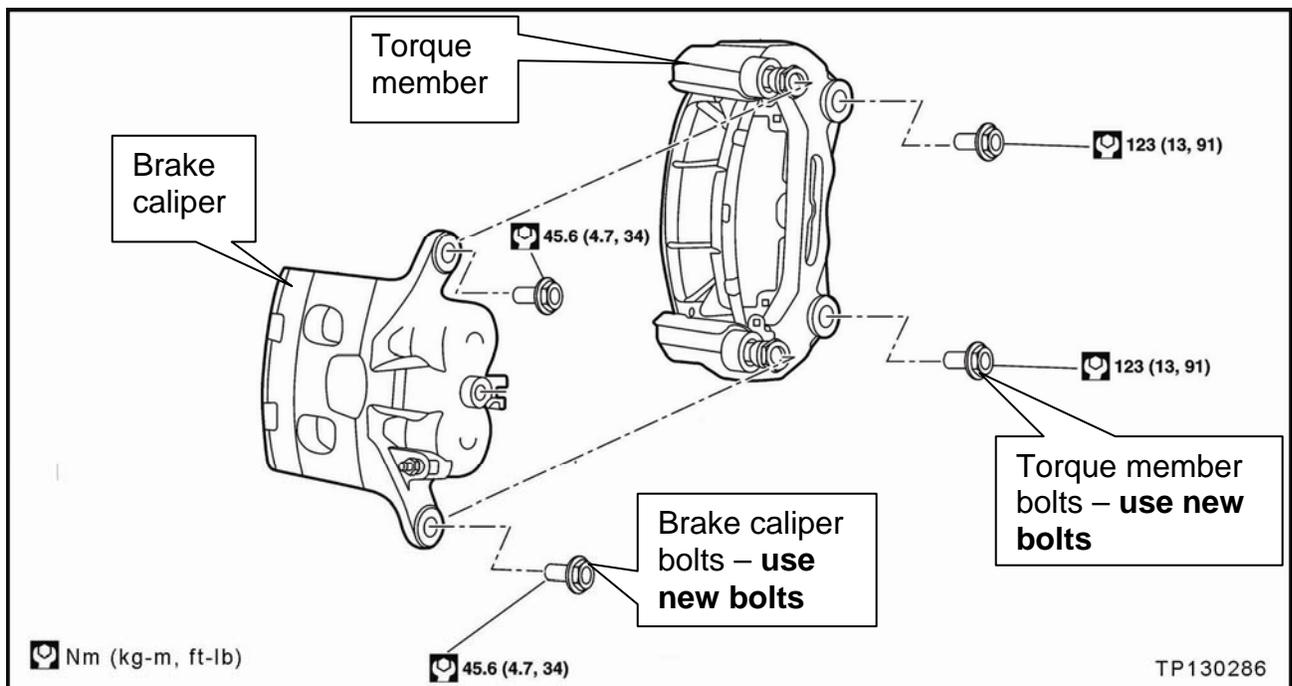

Figure 5
6. Install the brake caliper bolts (see Figure 5).